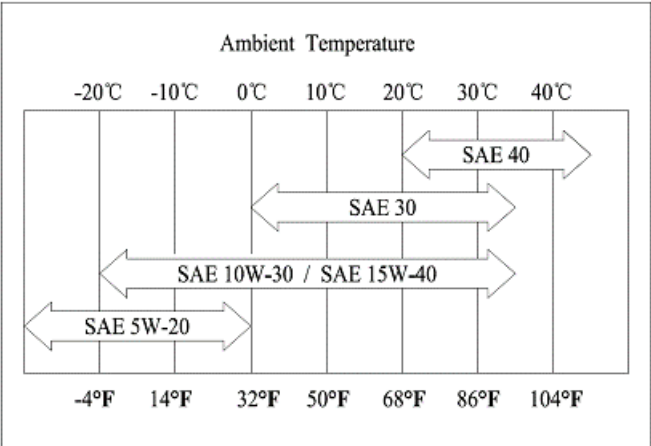

Figure 3-2: Recommended Oil Viscosity
- 6. See Figure 3-2. Fill the engine with 1.0 L (33.8 oz.) of recommended oil.